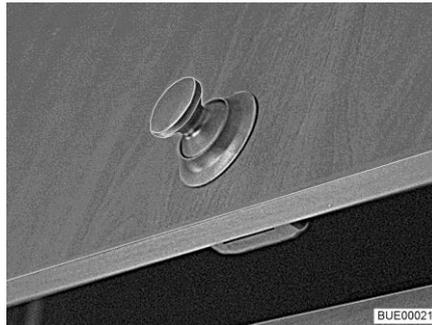
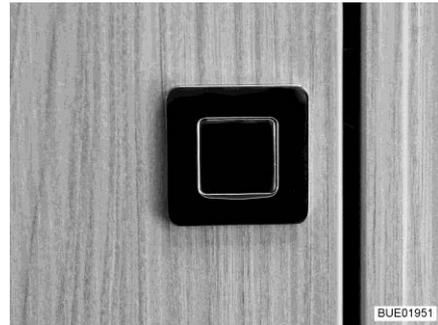

Fig. 46 Furniture flap with round push button
Fig. 47 Furniture flap with rectangular push button
- Press inner part of the lock. The push button (Fig. 46 or Fig. 47) jumps out.